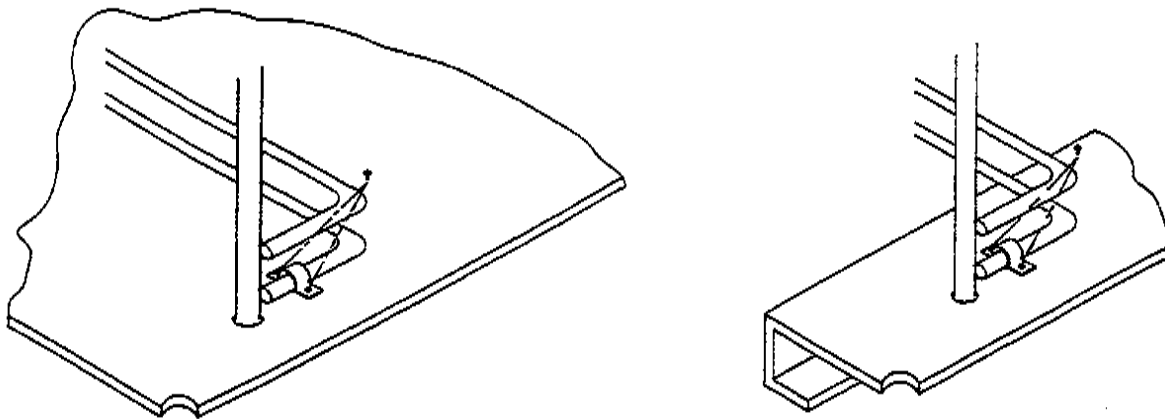

FIGURE 17
6. Secure bottom of rack guide to shelf or front and rear channel frames with side rack clips. Refer to figure 17.